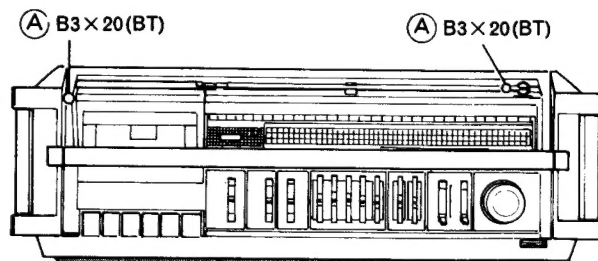

Fig. 2
- 1) Remove 5 fixing screws (A) shown in figure 2, 3, 4.